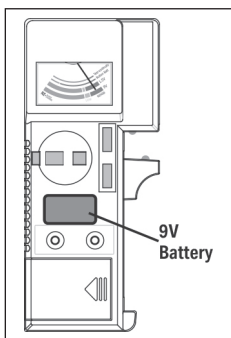

Fig. 2
1. Connect the battery to the 9V battery test contacts (2) according to the marked polarity (Fig. 2).
2. To read the battery level, observe the position of the gauge (7) needle against the scale band marked "9V".